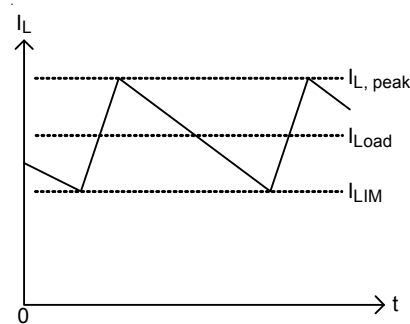

Figure 2. Valley Current-Limit
RT8209A/B/C has cycle-by-cycle current limiting control. The current-limit circuit employs a unique “valley” current sensing algorithm. If PHASE voltage plus the current-limit threshold is below zero, the PWM is not allowed to initiate a new cycle (Figure 2). In order to provide both good accuracy and a cost effective solution, the RT8209A/B/C supports temperature compensated MOSFET RDS(ON) sensing. The CS pin should be connected to GND through